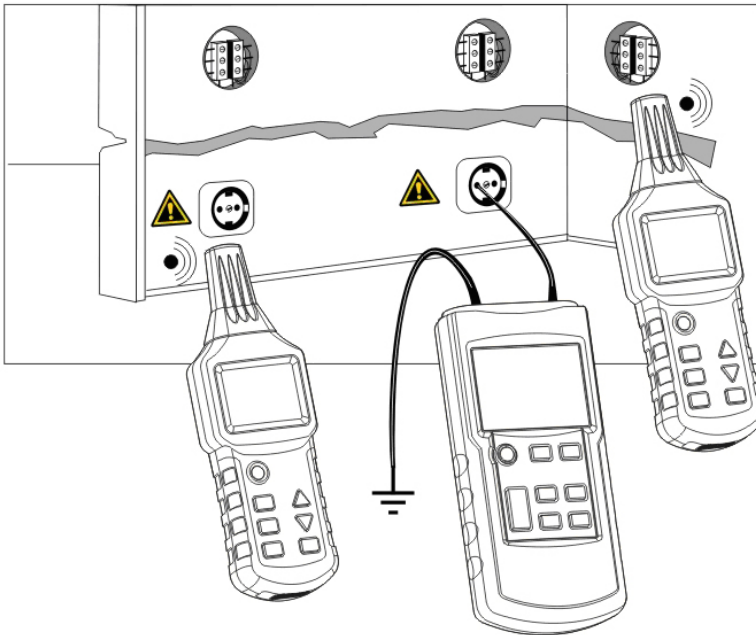

Fig.10
- Connect the transmitter to the phase and to the protection earth wire as shown in Fig. 10.